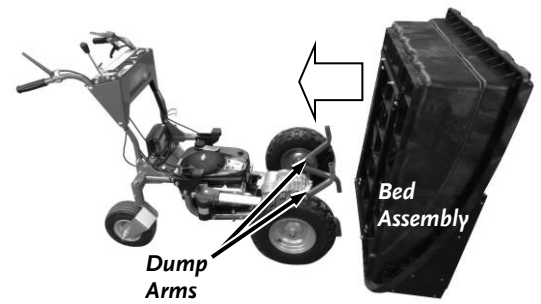

Figure 13
1. Place the Bed Assembly at the front of the machine with the Tailgate end resting on the ground (**Figure 13**).